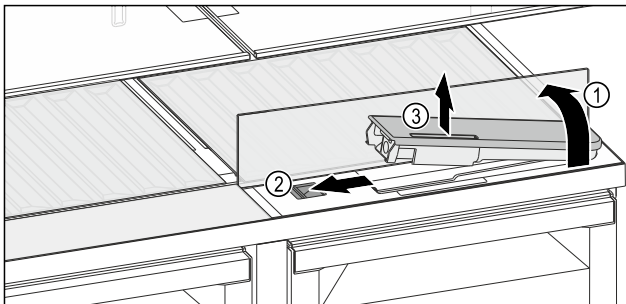

Fig. 130
- Lift the glass panel and fold to the back as far as it will go Fig. 130 (1).
- Slide the slider Fig. 130 (2) to the left.
- Remove the water tank Fig. 130 (3).